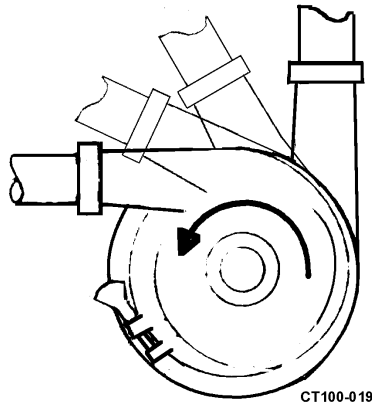

Figure 13 - Recommended Discharge Positions
- The pump casing may be rotated with the discharge connection pointing in any direction. The best pump performance will be with the outlet up, to the left, or positions in between; these positions ensure a flooded casing and prevent problems caused by air in the system (Figure 13).
- Check the pump rotation following the electrical installation. The correct rotation is counterclockwise when facing the pump inlet connection (Figure 13 and Figure 17); clockwise when viewing the fan on the motor.